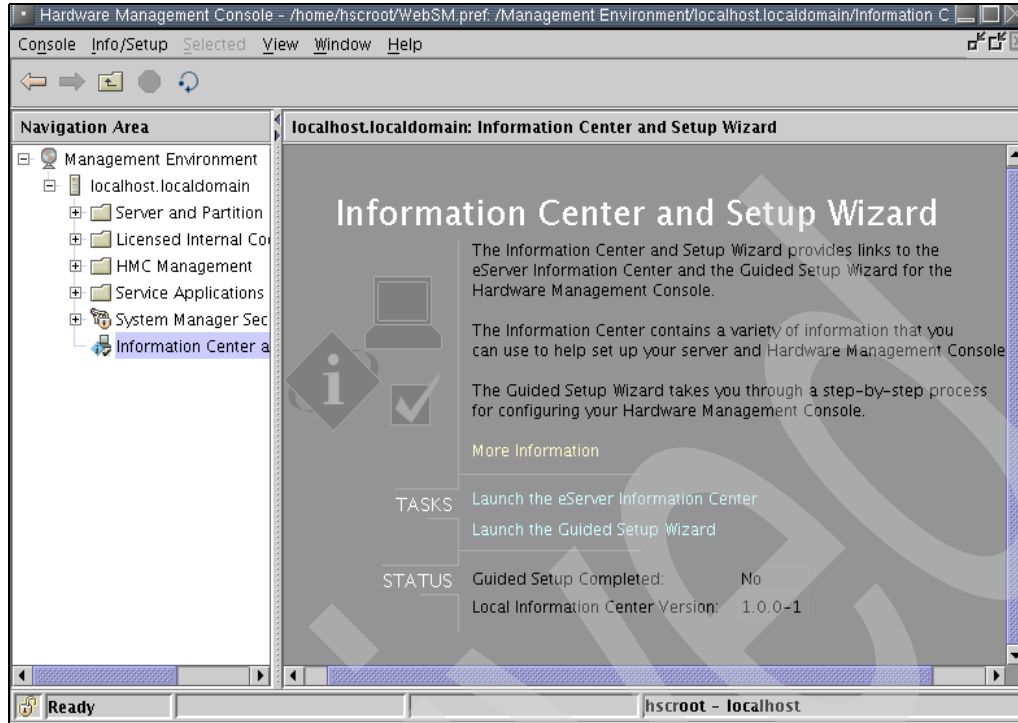

Figure 4-3 HMC Guided Setup
3. In the Contents area, click **Launch the Guided Setup Wizard** as shown in Figure 4-3.